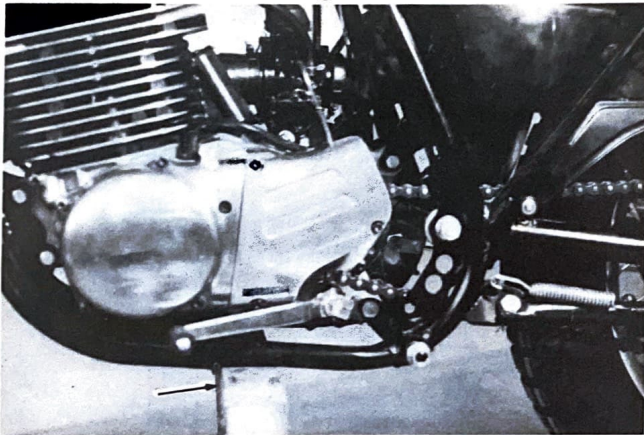

Fig. 7
b. Place a suitable support under the engine. This will keep the front of the machine elevated while the front fender and front wheel are installed. (Fig. 7)